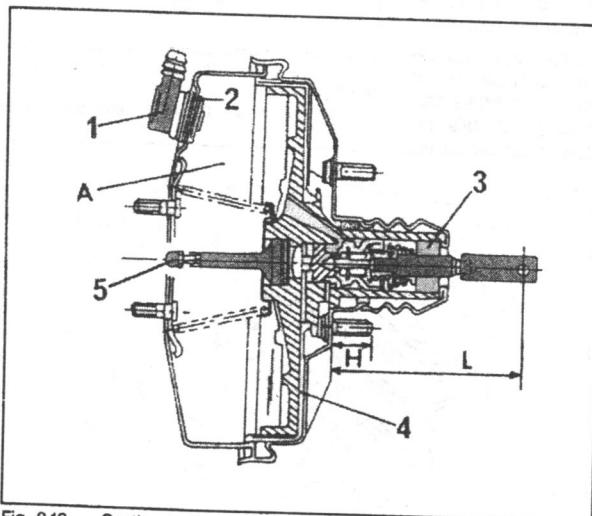

Fig. 8.18. — Sectional view of the brake servo unit with one working chamber (A). Units with 8 and 9 in. in diameter look similar.
Figs. 8.18 and 8.19 show sectional views of the two servo units, where you can see the difference. The push rod (5) has been factory-adjusted on the double-chamber unit and must not be disturbed. The push rod must, however, be adjusted in the case of a single-chamber unit, but differences must be noted. Dimension "L" must be set to 105 - 106 mm if the vehicle is built up to September 1990. After this date the dimension is 113 - 115 mm. We must mention that the new dimension has not been introduced at the same time on all vehicles.
- If the height "H" of the studs is 22.5 mm and the servo unit has a diameter of 8 in. it can be used in a vehicle built before September 1990 (servo unit with one chamber, Fig. 8.18).
- If the height "H" of the studs is 32.0 mm and the servo unit shown in Fig. 8.18 has a diameter of 8 in., you can use it in vehicles build from October 1990.
- If the height "H" of the studs is 35.0 mm and the servo unit shown in Fig. 8.18 has a diameter of 9 in., the unit will be suitable in vehicles build after January 1992.
If the servo unit shown in Fig. 8.18 is fitted, adjust the length of the push rod if the servo unit has been replaced. The push rod can be adjusted after slackening of the locknut. To make sure which of the two dimensions applies, measure the length of the old push rod which will be approximately within the two ranges already given.